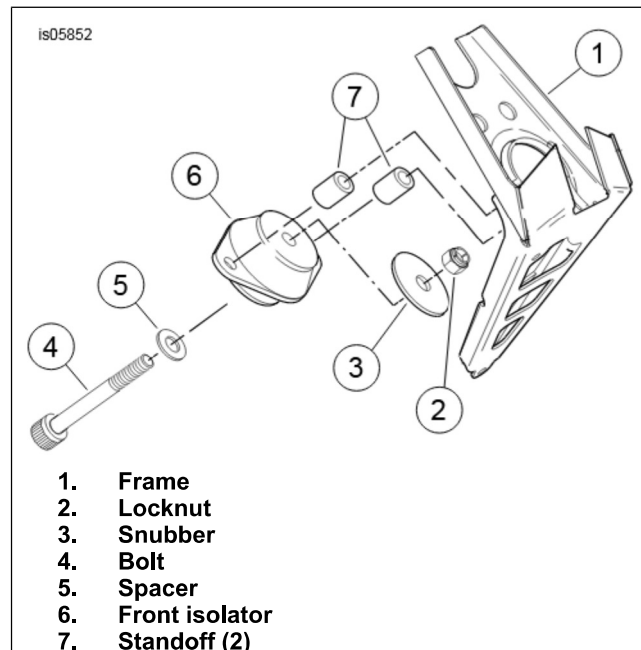

Figure 1. Remove Front Isolator
8. See Figure 1. Remove the main isolator bolt (4), spacer (5) and locknut (2). Discard the locknut.
9. Remove the isolator (6), snubber (3) and standoffs (7). Discard isolator and standoffs.